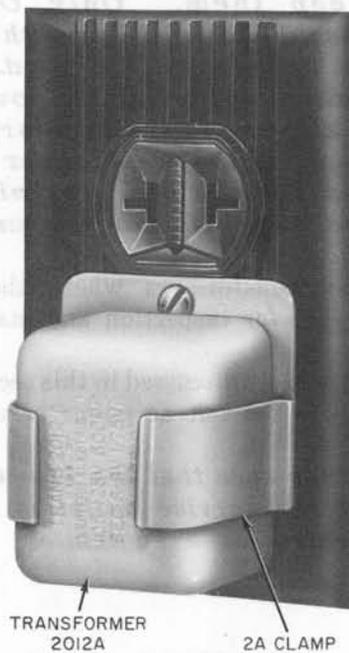

Fig. 1—2A Clamp
Danger: For safety, securely attach retaining clamp to ac outlet using outlet cover screw BEFORE attempting to install 2012-type transformer. See Fig. 1. When removing 2012-type transformer always unplug unit completely from outlet BEFORE attempting to remove the retaining clamp. This will prevent the possibility of a loosened retainer clamp or metallic outlet cover making contact with the ac prongs of the 2012-type transformer when partially withdrawn from outlet. Do not use 2A
2.01 A 2A clamp may be used to secure the 2012-type transformer to a standard electrical service outlet (Fig. 1) in those locations where the transformer is subject to being accidentally dislodged from the receptacle.